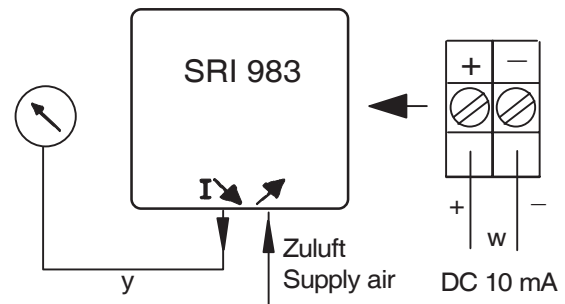

Fig. 28: Test circuit for single acting positioner
- Connect the positioner as shown in the test circuit, fig. 28, preset supply air to 1.4 bar.